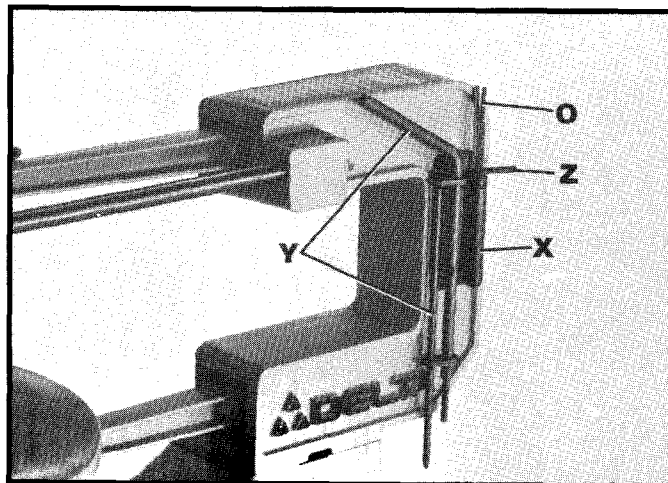

Fig. 13
11. The tool holder (X) Fig. 13, is used to hold the quickset blade changing wrench (Y), allen wrench (Z) and extra blades (O) as shown.